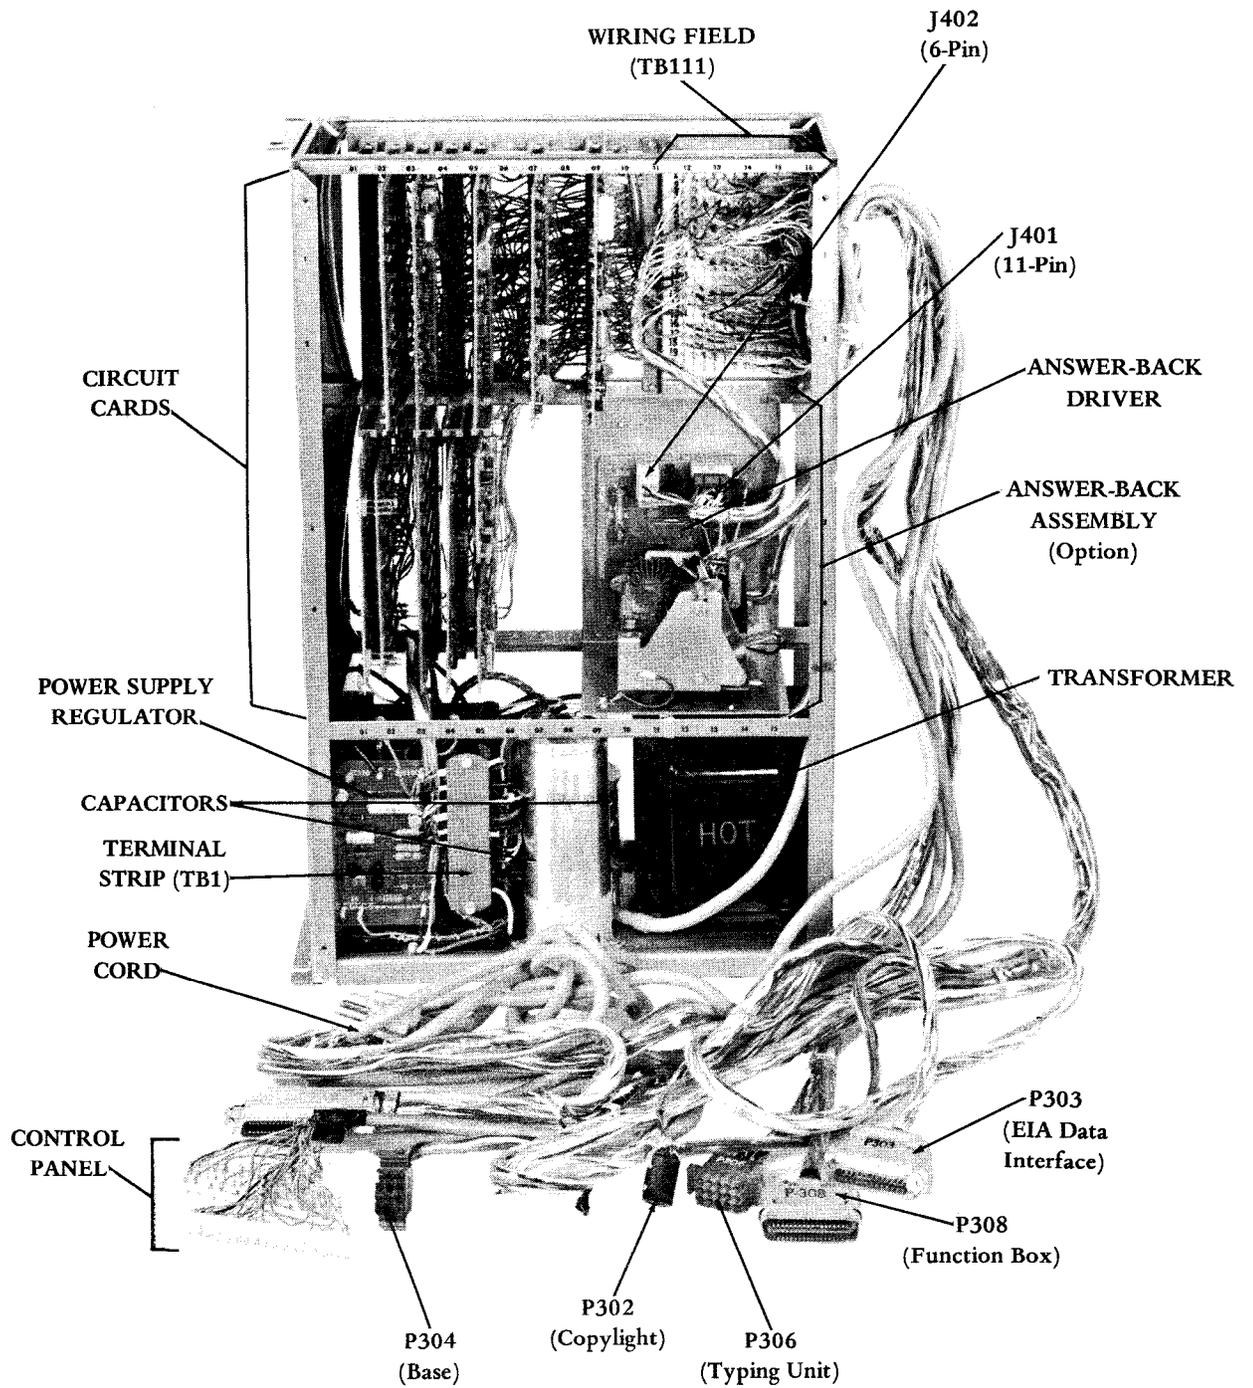

Figure 11 - Electrical Service Unit
- 2.15 To remove the answer-back assembly from the electrical service unit, proceed as follows (Figure 11).